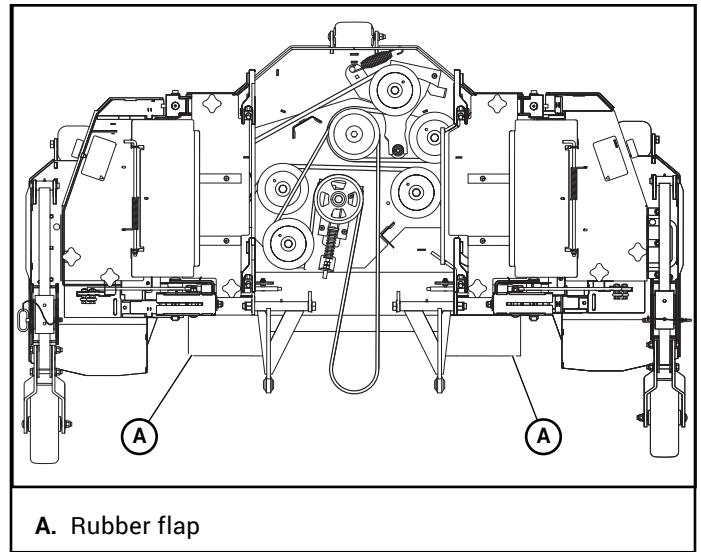

Figure 3-11
- Do not operate the mower without the rear discharge rubber flaps or power unit deflector in place. Figure 3-11